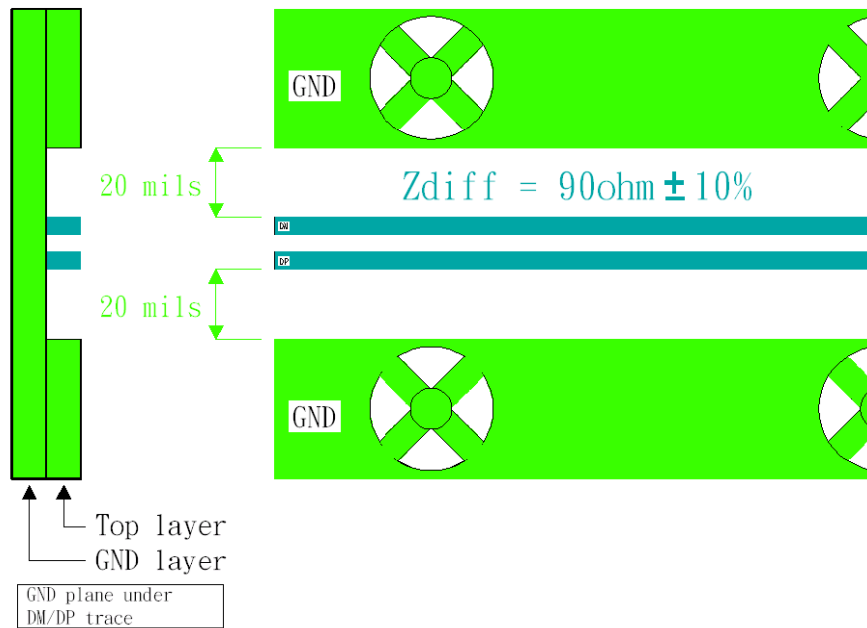

Figure 4. USB Differential Pairs
- Maintain at least 20 mils air gap to the edge of the reference plane (guard ground) when the traces run parallel to the plane edge (see Figure 4, page 9)